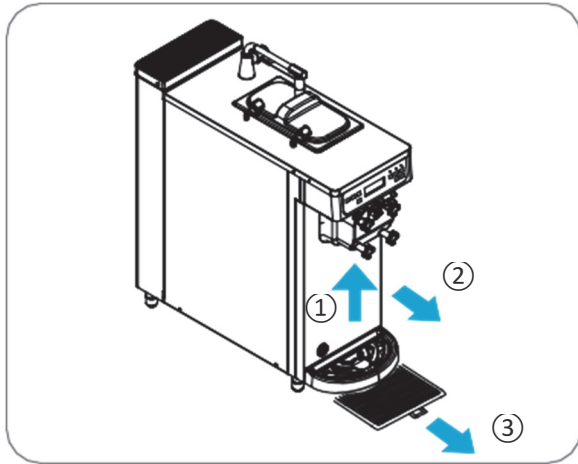

Figure 70
The filter is located at the bottom front of the unit, below the drip tray. (See item 3 in Figure 70) Lift and remove the drip tray and splash guard, then gently pull out the filter.